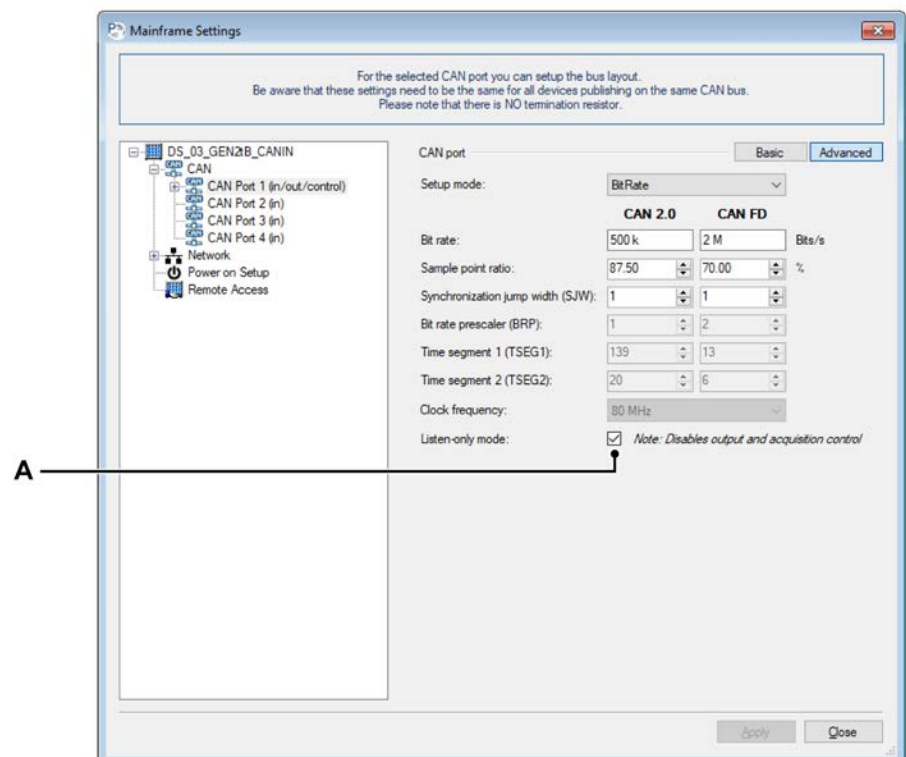

Figure 11.52: General CAN Settings
- The used **Bit rate** (see Figure 11.52) needs to be checked.